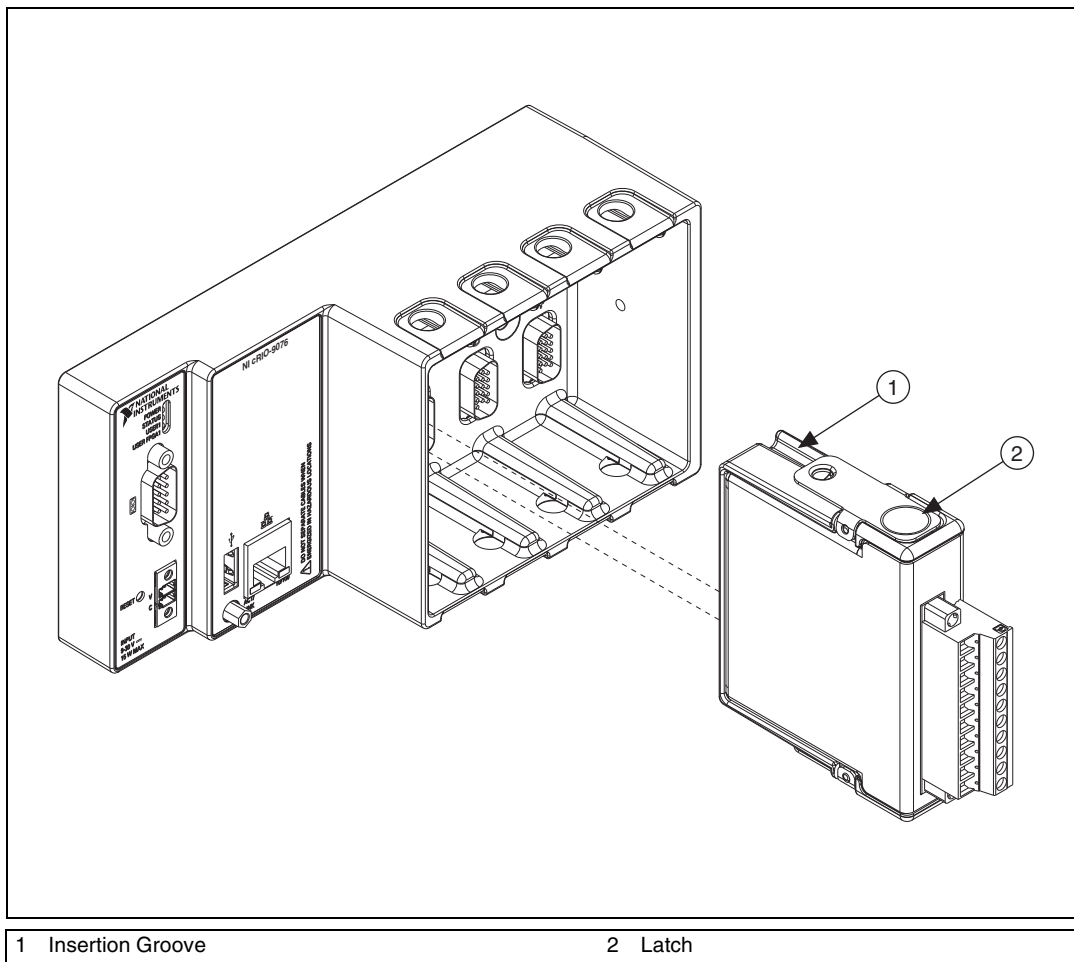

Figure 12. Installing an I/O Module in the Chassis
2. Align the I/O module with an I/O module slot in the chassis as shown in Figure 12. The module slots are numbered 1 to 8, left to right.